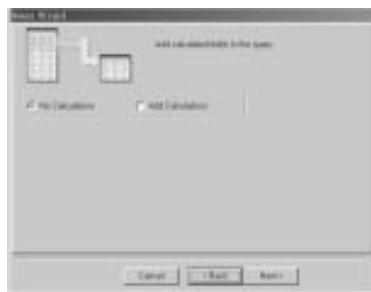

Fig. 8-7 Select the Calculating Fields
2.5 Select the Grouping Fields as in Fig. 8-7. No Grouping means no grouping fields and Select Grouping Field means adding grouping fields. And then click **Next**.